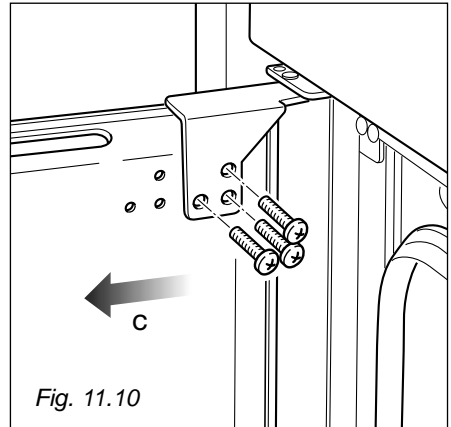

Fig. 11.10
- Remove the door following the arrow **C** (fig. 11.10 - 11.11)